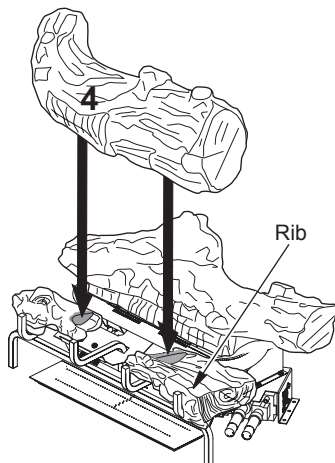

Figure 26 - Installing Log #4
4. Place front log (#4) on top of left and right bottom logs as shown in Figure 26. Notches in bottom of log #4 will fit over ribs in logs #2 and #3.